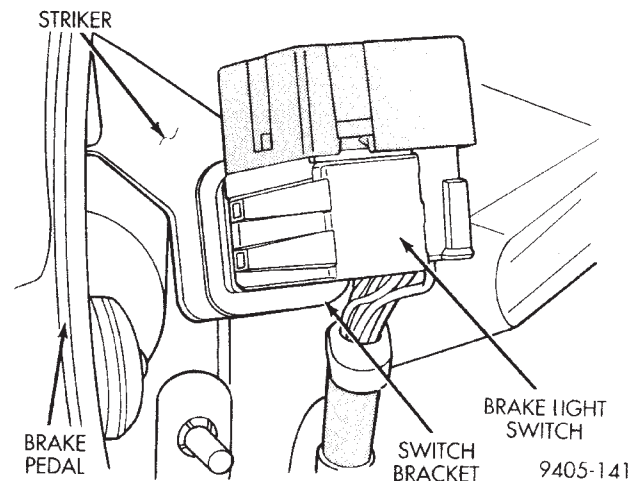

Fig. 206 Stop Light Switch Location In Vehicle
booster, stop lamp switch or striker (Fig. 206) can result.
(5) Connect the wiring harness connector to the stop lamp switch.
(6) Gently pull back on brake pedal until the pedal stops moving. This will cause the switch plunger (Fig. 206) to ratchet backward to the correct position.